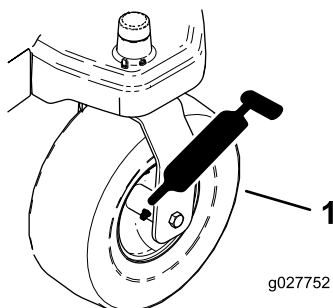
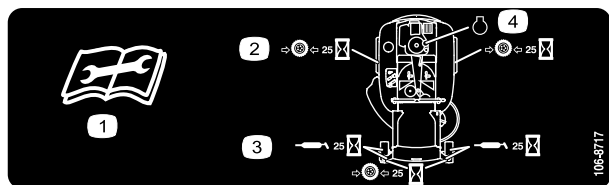

Figure 31
Figure 32
3. Clean the grease fittings (Figure 31 and Figure 32) with a rag.
4. Connect a grease gun to each fitting (Figure 31 and Figure 32).